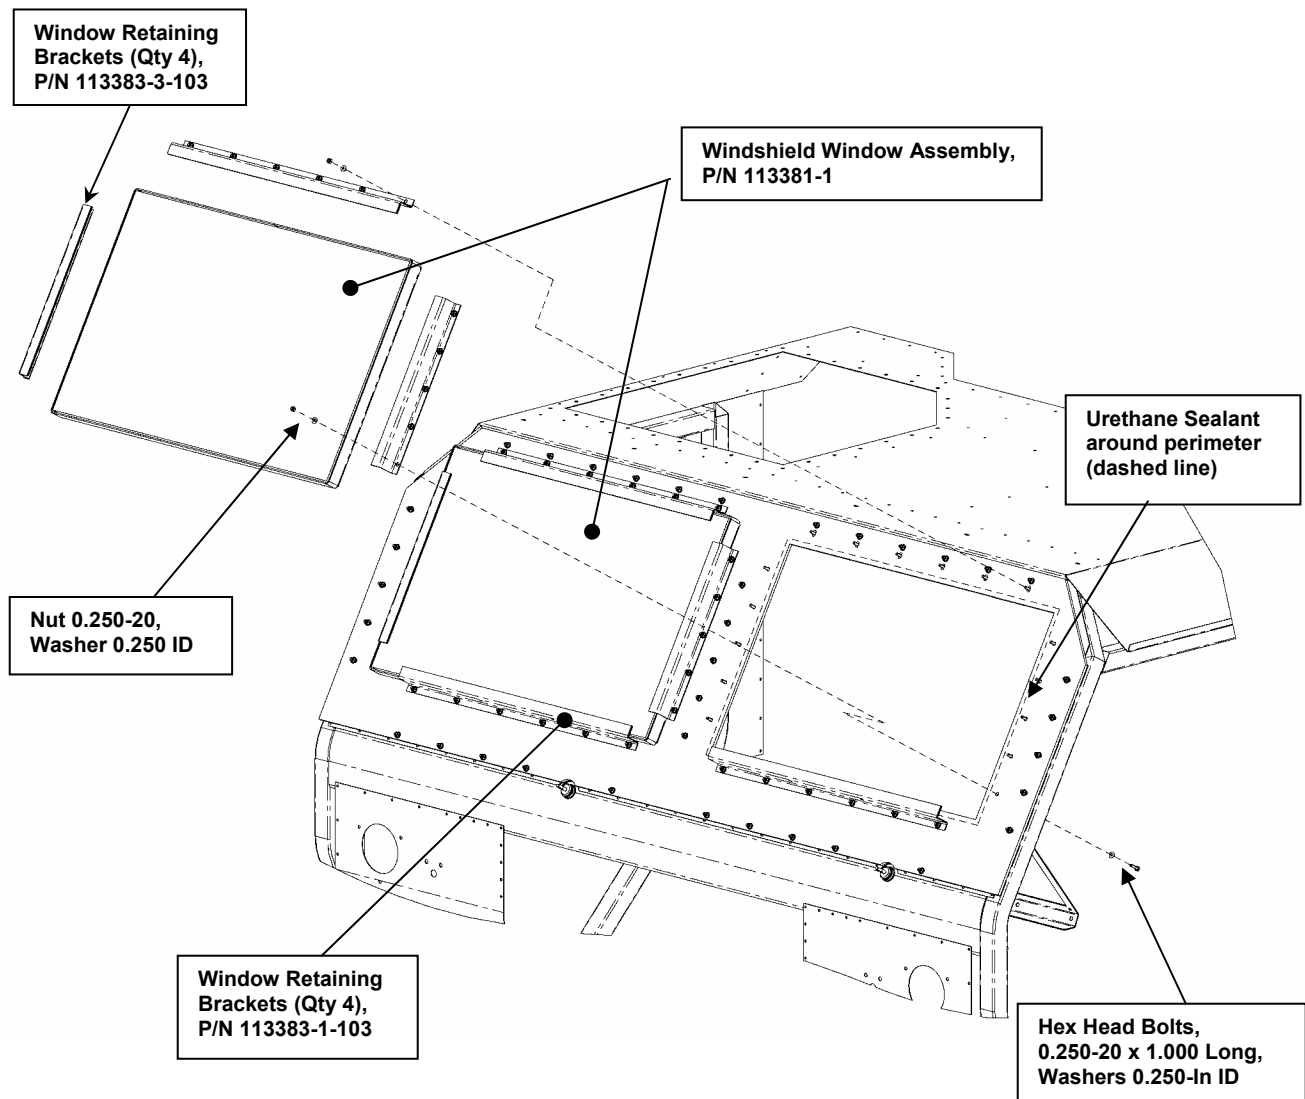

Figure 21. Armor Windshield installation.
- m) Apply Urethane Sealant (P/N 104302-1) to the outside of the Windshield Frame (P/N 106721-1-103), as shown in Figure 21. This will provide a seal around the Windshield Armor (Glass) (P/N 113381-1) once it is installed.
- n) Loosely attach the two lower Windshield Retaining Brackets (P/N 113383-1-103) using 0.250-in fasteners to the Windshield frame, see Figure 21. Set the Windshield Armor (P/N 113381-1) on the Retaining Brackets and over the openings of the Windshield Frame (P/N 106721-1). Complete the installation by securing the Windshield Armor in place, using the remaining Windshield Retaining Brackets (P/Ns 113383-1-103 and 113383-3-103), and tightening all the 0.250-in. fasteners, as shown in Figure 21.